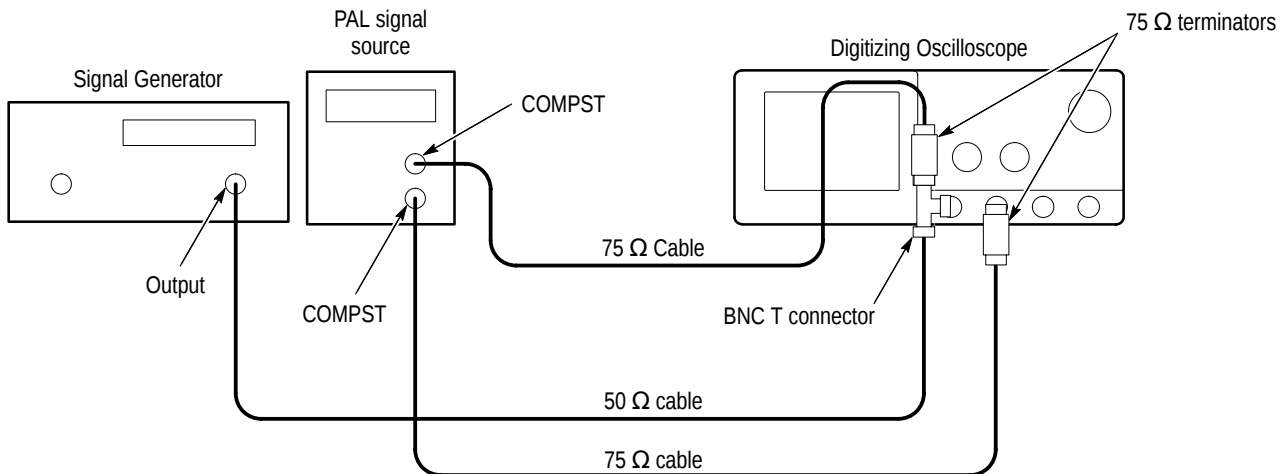

Figure 4–33: Subsequent 60 Hz Rejection test hookup
- Reconnect the output of the signal generator. Connect the composite signal connector of the PAL signal source (labeled **COMPST** on the TSG 121) to a 75  $\Omega$  cable and a 75  $\Omega$  terminator. Connect both signals to the CH1 input through a BNC T. See Figure 4–33.
- Connect another composite signal connector of the PAL signal source (labeled **COMPST** on the TSG 121) through a 75  $\Omega$  cable and a 75  $\Omega$  terminator to the CH2 input. See Figure 4–33.
- CONFIRM that the **TRIG'D** LED stays lighted and that the waveform on screen is stable. In other words, be sure the waveform does not move horizontally or vertically. Also, confirm that the waveform on the screen has one positive pulse and a number of negative pulses. See Figure 4–34.